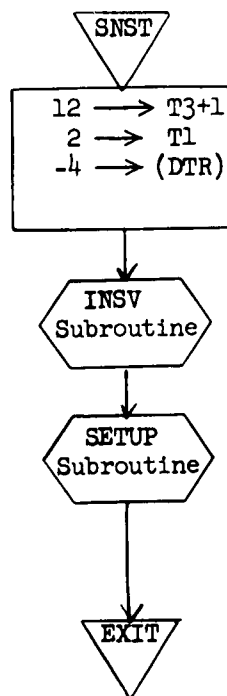

Figure 7.22 SNST
7.3.5 SNST Subroutine (Figure 7.22)